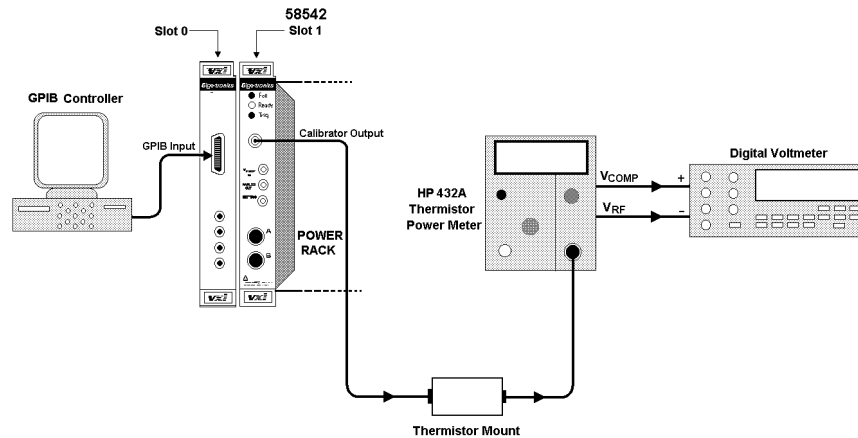

Figure 4-1. Calibrator Reference Level Test Setup
1. Connect the 432A to the Calibrator Output on the power meter as shown in Figure 4-1.